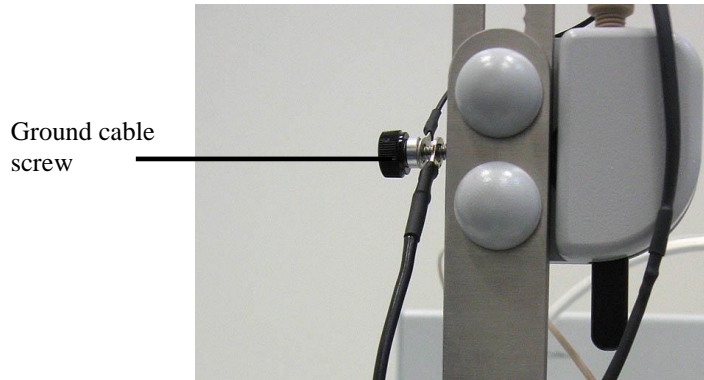

Fig. 29: Normal-phase ground strip
6. Remove the ground cable screw and reinstall with the normal-phase grounding cable attached. Make sure to lead the cable along the front side of the diverter valve assembly (→ Fig. 29).